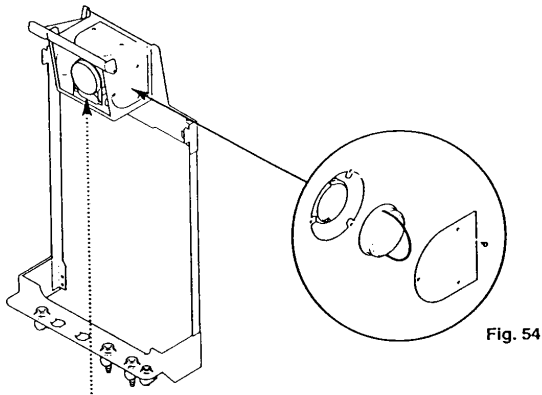
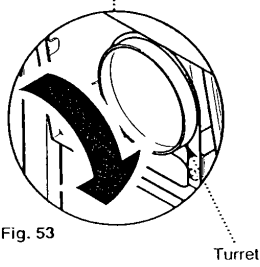

Fig. 54
Fig. 53
1. Remove the left or right hand air box blanking plate, as appropriate, from the back plate air box by releasing the three screws (Fig. 54).
2. Rotate the turret to face the selected opening (Fig. 53) and remove the side blanking cap by pushing in and turning anti-clockwise to release the bayonet fitting (Fig. 54).